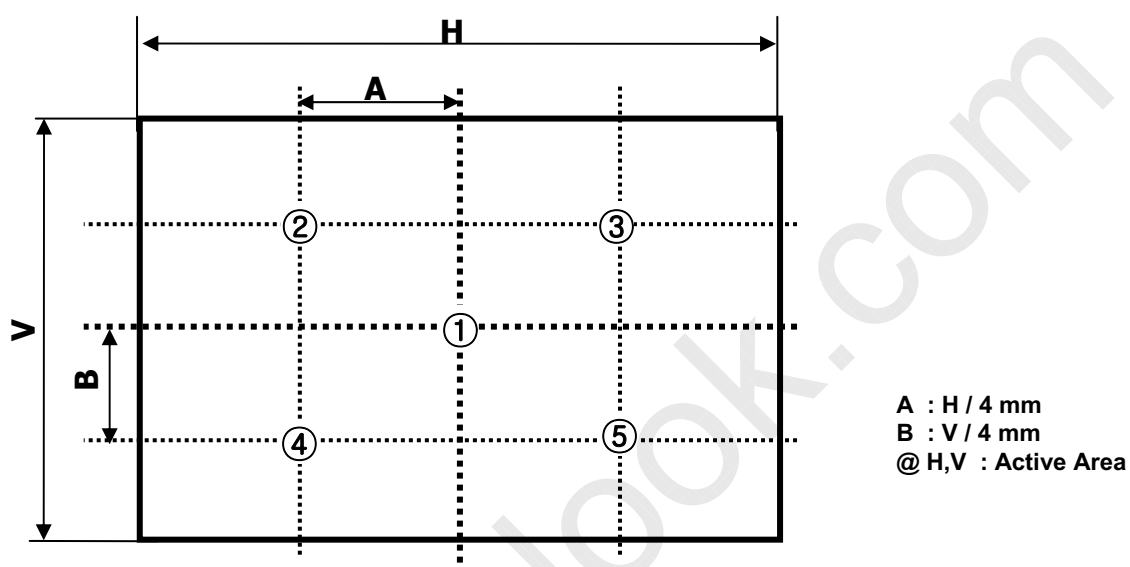

FIG. 2 5 Points for Luminance Measure
n = the Position number(1, 2, 3, 4, 5). For more information, see FIG 2.
2. Surface luminance are determined after the unit has been 'ON' and 30min after lighting the backlight in a dark environment at  $25 \pm 2^\circ\text{C}$ . Surface luminance is the luminance value at center 1-point across the LCD surface 50cm from the surface with all pixels displaying white. For more information see the FIG. 2.
For more information, see the FIG. 2.